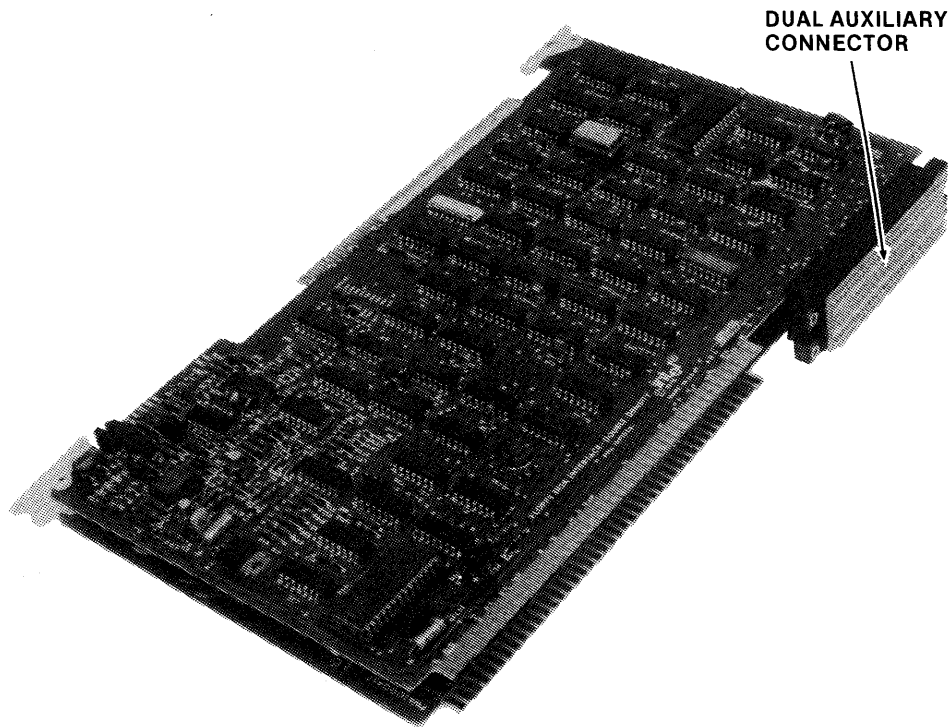

Figure 2-11. Flexible Disk Controller Boards
12. Examine the two printed circuit boards (disk controller boards, as shown in Figure 2-11) in the two bottom slots. Remove the large cable connector from the interface board, and then remove both boards at once. You will see a dual auxiliary connector mounted on the left rear, connecting the interface and controller boards. Remove this connector.